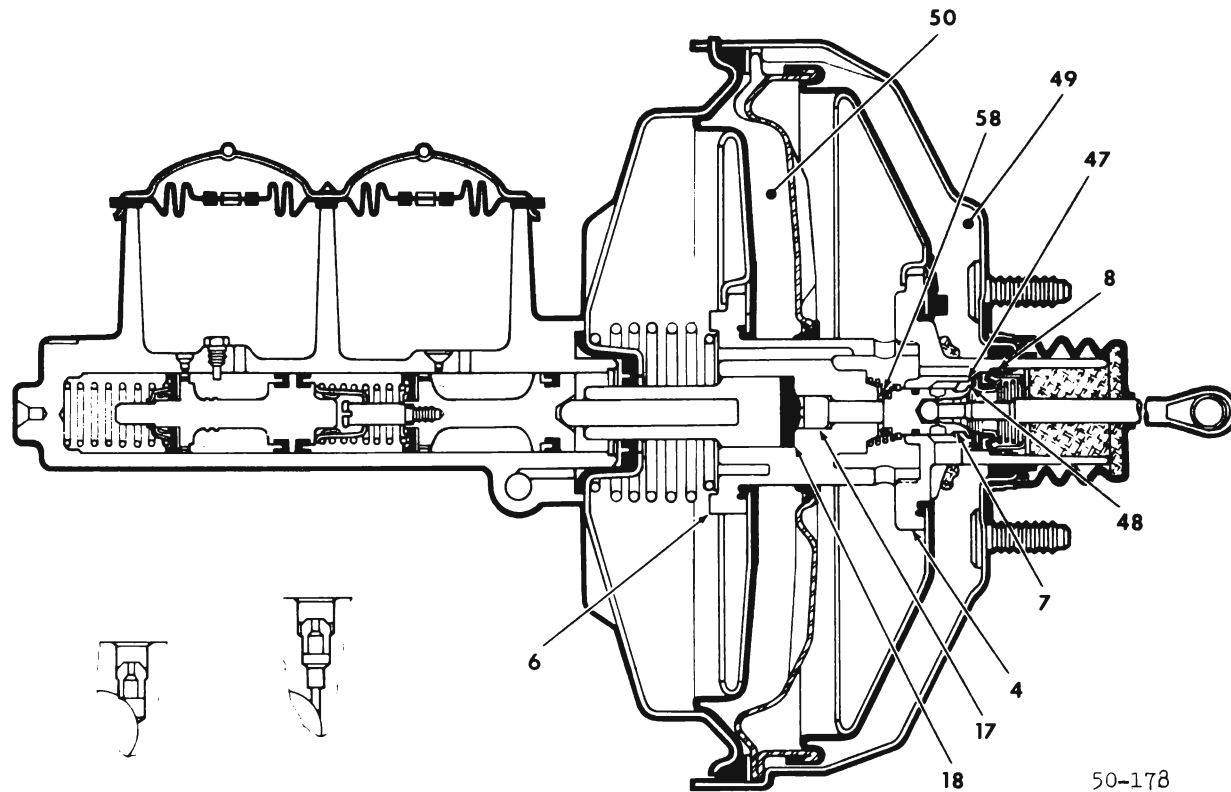

Figure 50-54 Holding Position
will go into the holding or poised position. See Figure 50-54.
**NOTE:** Figure 50-54 illustrates a reaction bumper (58). This bumper is provided for noise control and will contact the secondary power piston only during brake applications that utilize the total available power brake assist.